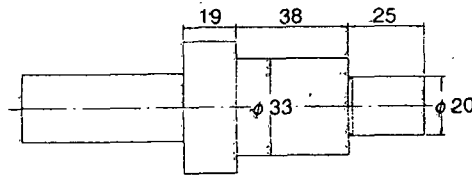

Fig. 2.
- b) Draw the tool layout for the component shown in fig.2